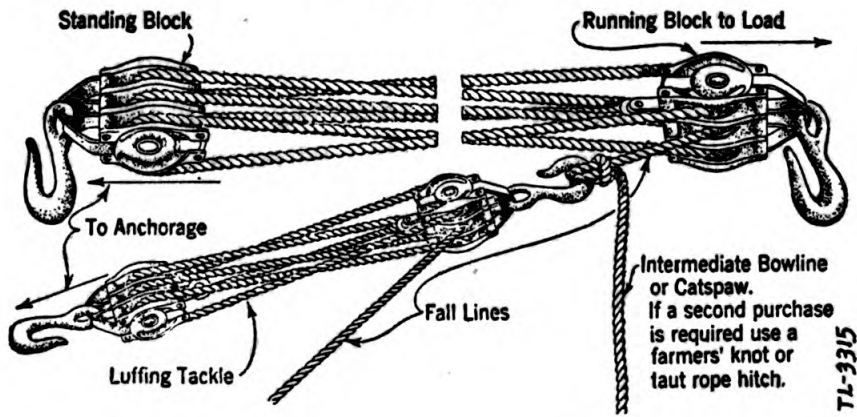

Figure 24
e. Rigging.—The type of rigging used will depend upon the weight to be handled and the available motive power. The simplest rigging, that will adequately perform the work, should be selected. Luffing tackle is a commonly used type of rigging. A simple definition of luffing tackle is; additional tackle (blocks and necessary rope), attached to the fall line of the main tackle (tackle attached to the load). Figure 24 shows luffing tackle used two different ways, lifting a load and hauling a load.
When the load to be handled is greater than can be handled safely by the workmen, then block and tackle shall be used to gain a mechanical advantage. For practical purposes, the weight capable of being lifted is equal to the applied force times the number of ropes leaving the movable block. For example, if a man can exert a force of 130 pounds on the fall line of a three sheave tackle, he will be able to lift 6 times 130 or 780 pounds. This assumes the fall line leaves the fixed block, as in lifting a load, figure 24. If the fall line leaves the movable block as in hauling a load, figure 24, the same man can lift 7 times 130 or 910 pounds.
f. Selecting the proper size blocks for the work to be performed.—To do this it is necessary to know the approximate weight to be handled, the motive or lifting power available and the strength of the hooks of the standard blocks. Knowing the load and the available power, calculate the number of sheaves required, by dividing the load by two times the power. If this result is three or less, select one of the standard blocks with the number of sheaves as calculated and a hook strong enough to withstand the load. If this result is over three, it will be necessary to select a system of rigging from the standard blocks available. This rigging will require luffing tackle, which in general is a 3-sheave arrangement. See figure 24. When using luffing tackle, remember that for practicable purposes, the stress in the fall line of the tackle attached to the load, is equal to the force applied to the fall line of the luffing tackle, times the number of ropes leaving the movable block of the luffing tackle, which will be six or seven.
Example: Refer to figure 24, (lifting a load). 5460 pounds to be lifted by one man who can exert a force of 130 pounds.